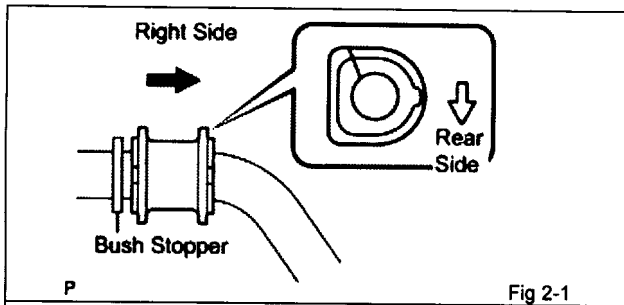

Fig 2-1
- (1) Cut in bushing should face the front of the vehicle. (Fig 2-1)